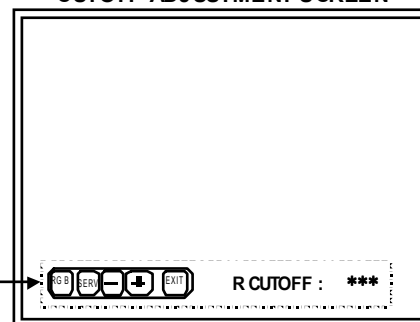

Fig.9
- ① In the WHITE BALANCE menu screen, press the **CHROMA/PHASE** key to enter to the CUTOFF adjustment mode (Fig. 9). In this case, keyfunction is replaced as shown below.
- ② Whenever press the **CHROMA/PHASE** key, change the adjustment colour of R, G and B.